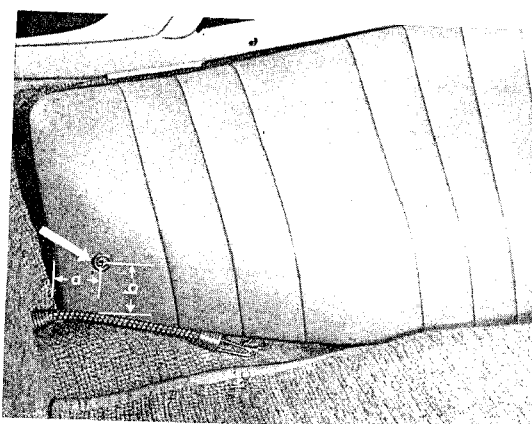

Fig. 142
- c) Remove the panel and locate the hole with a punch. The hole is located approx. "a" = 3.5 cm (1 3/8 in.) and "b" = 6 cm (2 3/8 in.) as in Fig. 142.